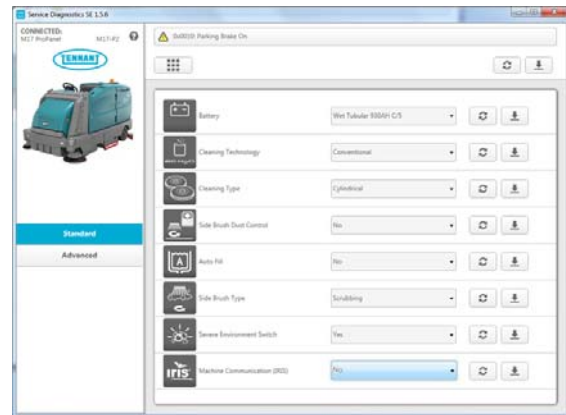

FIG. 20
- Correct the installed options. (Fig. 20)
- Press the down arrow button to program the machine. A green check appears next to the down arrow button when programmed. (Fig. 20)